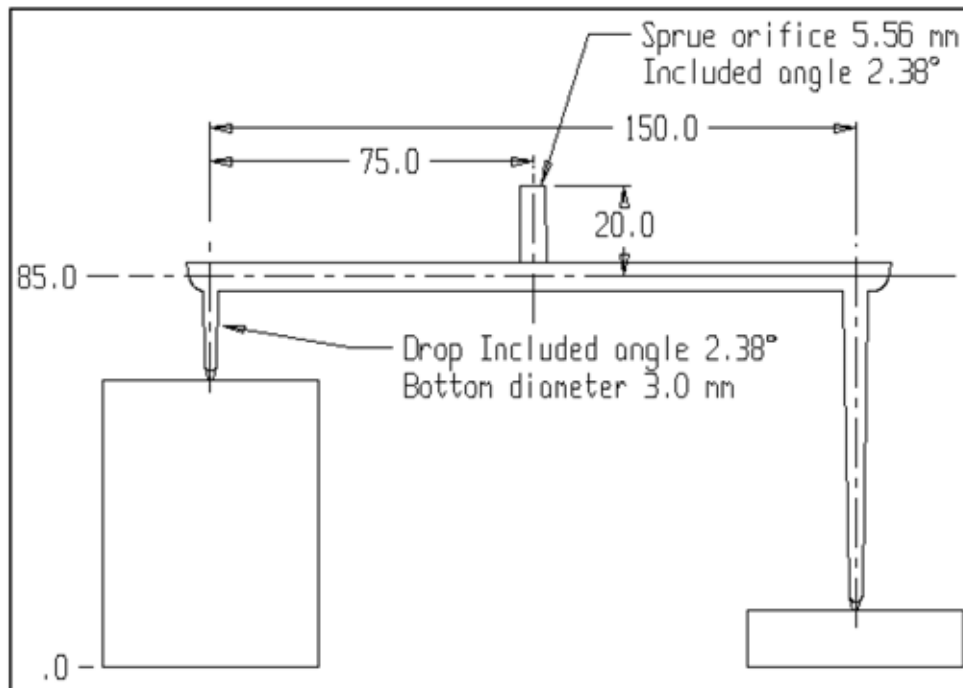
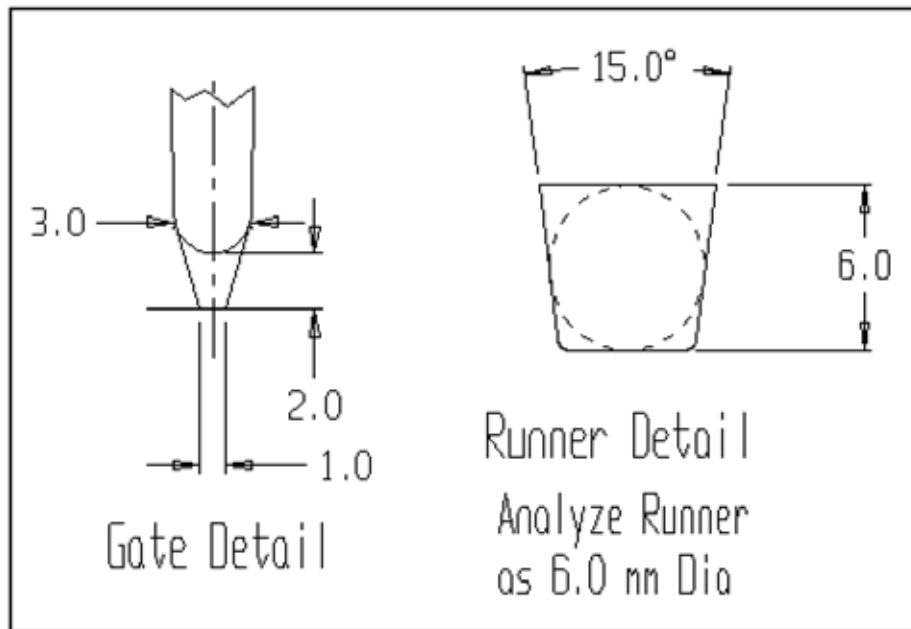

Figure 119: Runner drawing for the box and lid
Figure 120: Gate and runner detail for the box and lid
- Refer to the drawings shown in Figure 119, and Figure 120 when using the wizard.
- The runner for this tool is trapezoidal but is analyzed as round. Once the final sizes are determined, the size of the trapezoidal runner is determined as shown in Figure 120.